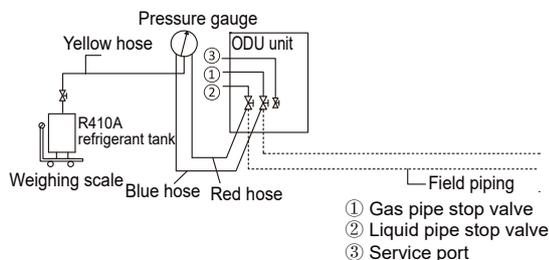

Fig 5.33
8.Flush the other openings in the same manner, working in sequence from indoor unit A towards the outdoor units. Refer to Fig.5.33